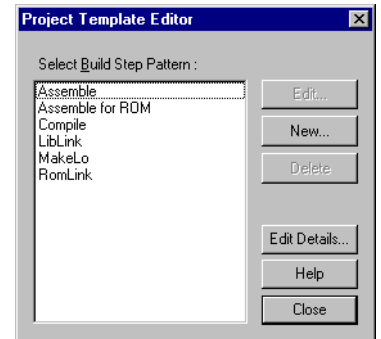

Figure 13-7 Project template editor
2. Select **Edit Project Template...** from the **Project** menu. The Project Template Editor dialog is displayed (Figure 13-7).